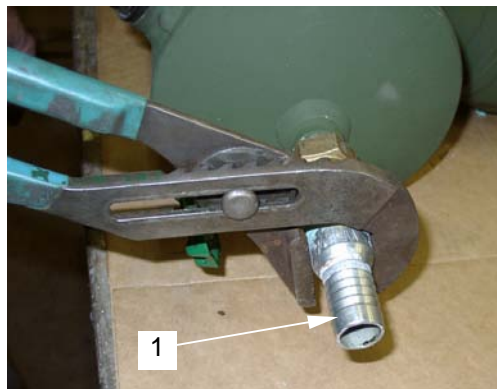

Figure 9. Drain Hose Nipple
18. If the drain hose nipple (**figure 9, item 1**) needs to be replaced, remove and install a new nipple onto the drain valve as shown below.